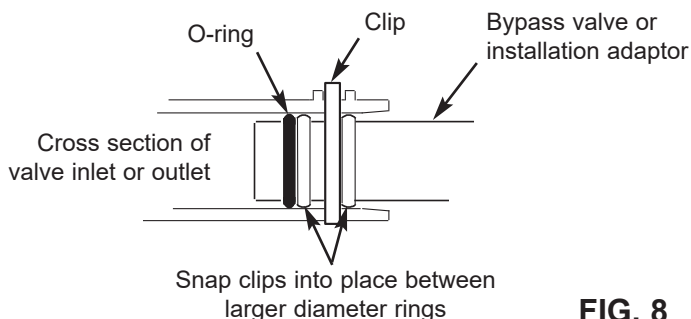

FIG. 8
- Snap the two large plastic clips in place on the inlet and outlet ports, from the top, down (See Figure 8). Be sure they snap into place. Pull on the bypass valve or installation adaptors, to make sure they are held securely in place.